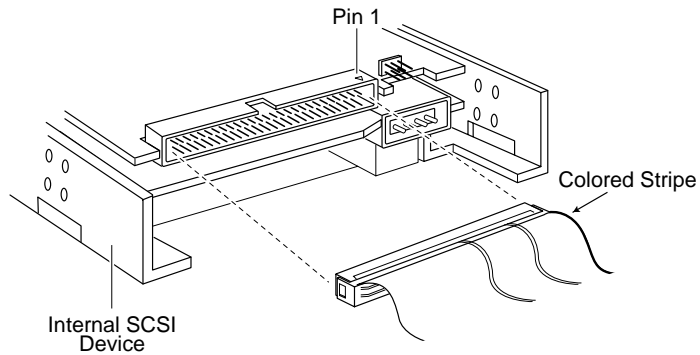

Figure 2-6. Internal SCSI Ribbon Cable to Internal SCSI Device
- 2 Plug the last connector on the ribbon cable into the SCSI connector on the internal SCSI device, as shown in Figure 2-6.